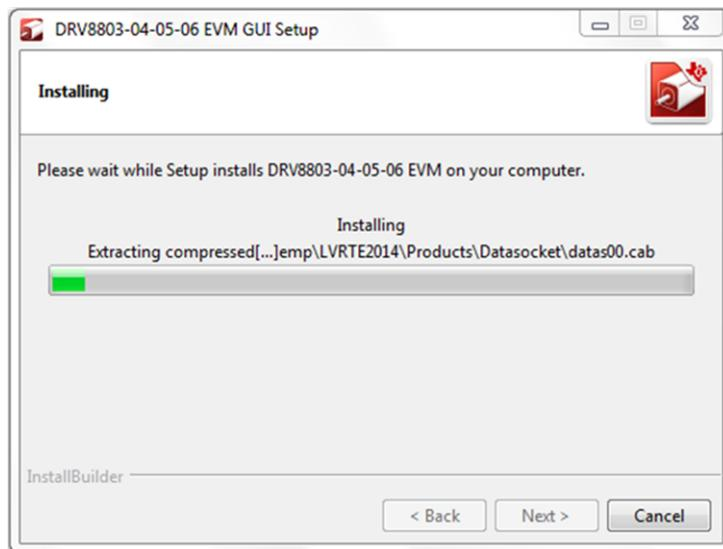

Figure 15. LabVIEW RTE Self Extraction
10. Once the download completes, LabVIEW begins with the self-extraction as shown in Figure 15.